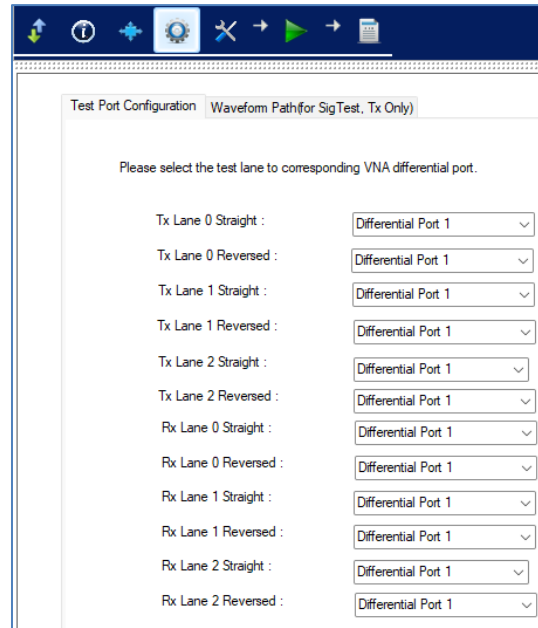

FIGURE 24. CONFIGURE TEST PORT
- c) Based on the setup configuration, connect cables from the Keysight ENA Port 1 and 3 to the first test lane pair according to the test port configuration in Figure 24.
d) For 2-lane testing, connect another set of cables from the Keysight ENA Port 2 and 4 to the second test lane pair on the test fixture's connectors, according to the test port configuration in Figure 24.